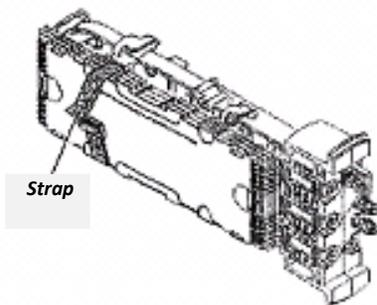

Figure 11b – Securing Splice Trays
15.03 After splicing is complete and the trays are stored, secure them by using the hook and loop straps provided. See **Figure 11b**.